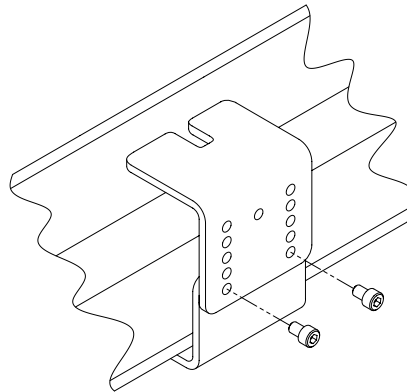

Figure 2: Attaching Bottom Plate to the Rear Plate.
3. Place the Bottom Plate underneath the 2-Post Lift beam and between the Rear Plate; attach using 2 of the M8 x 1.25 x 12 Socket Head Screws. (refer to Fig. 2)